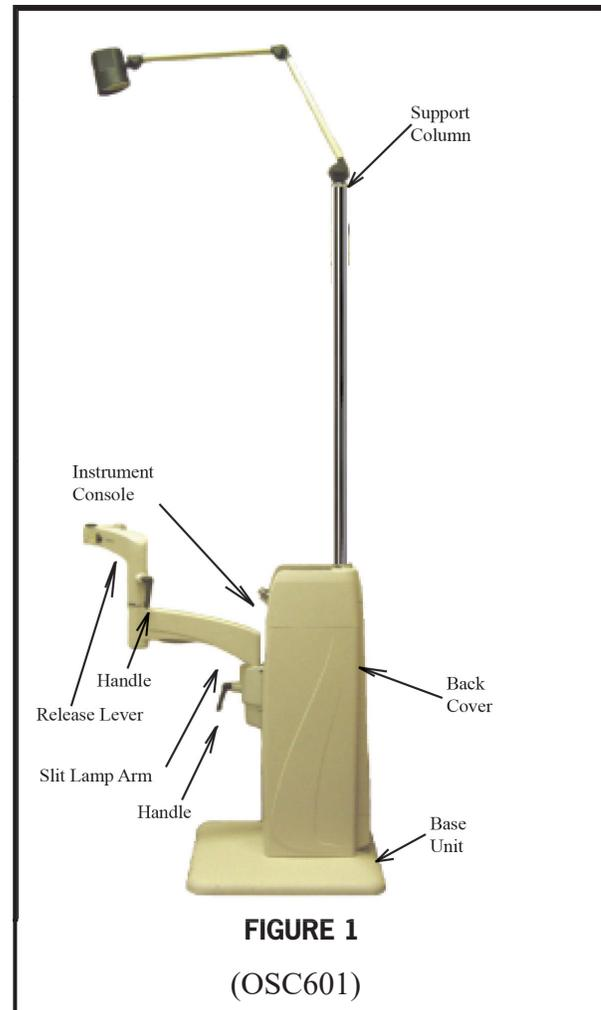

FIGURE 1
2.1.1.2 Loosen the two screws that hold the Back Cover (Figure 1) in place, located in the bottom of the Cover. Panel. Panels lift off the Base Unit.
2.1.1.3. Squeeze the Slit Lamp Arm Lock Release Lever (Figure 1) and at the same time push down on Slit Lamp Arm. Arm should move approximately 1/4 inch. Release the Lock Release Lever to set the Slit Lamp Arm lock.
2.4.1. Unpack the Refractor Arm. Slide the Clamp Sleeve carefully down over the Support Column until positioned as shown in Figure 1. Tighten the clamp screw securely, using the hex key wrench provided.
3.1.2. The vertical lock for this arm is controlled by the Lock Release Lever located under the Slit Lamp Arm. (See Figure 1). Grip the Slit Lamp Arm and depress the Lock Release Lever to unlock the Slit Lamp Arm. Releasing the Lock Release Lever will lock vertical travel in both directions.
3.1.4. The handle under the innermost pivot point of the Slit Lamp Arm (Figure 1) is to restrain rotation of the complete arm assembly. The handle at the intermediate joint on the Slit Lamp Arm locks rotation of the outer arm section. The handle directly under the Slit Lamp locks rotation of the Instrument about its pivot point.